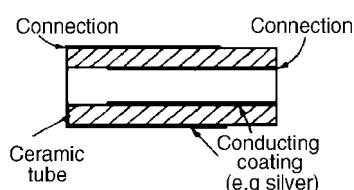

Figure 6.12
- 4 **Ceramic capacitors.** These are made in various forms, each type of construction depending on the value of capacitance required. For high values, a tube of ceramic material is used as shown in the cross section of Figure 6.12. For smaller values the cup construction is used as shown in Figure 6.13, and for still smaller values the disc construction shown in Figure 6.14 is used. Certain ceramic materials have a very high permittivity and this enables capacitors of high capacitance to be made which are of small physical size with a high working voltage